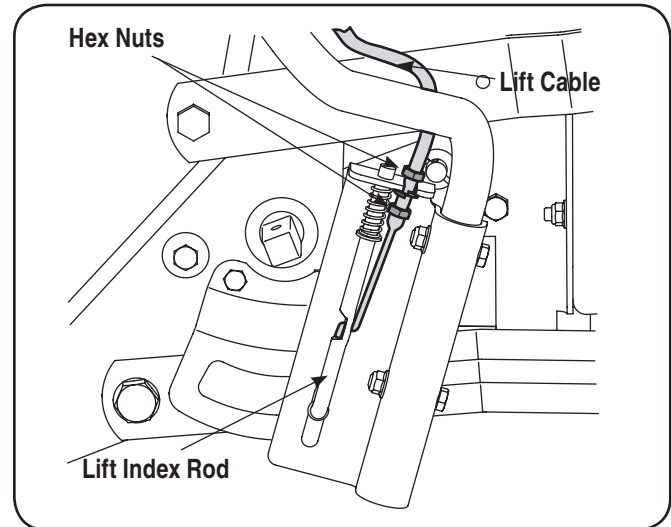

Figure 3-23
If the lift index rod, as seen in Fig. 3-23, doesn't latch securely or the pivot release has too much slack in it, an adjustment can be made as follows:
1. Loosen the upper hex nut a few turns, then tighten the lower hex nut to shorten the cable length. See Fig. 3-23.
2. Loosen the lower hex nut a few turns, then tighten the upper hex nut to lengthen the cable. See Fig. 3-23.